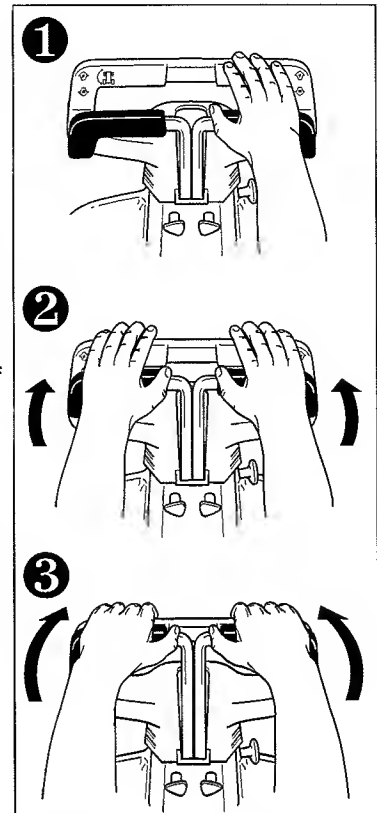

Figure 5. Move Control Levers Gradually.
*The BEST method of handling the ground speed control levers is in three steps — as shown in Figure 5.*